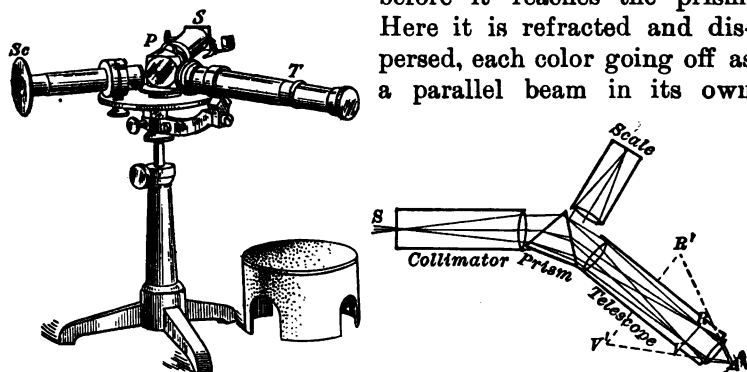

FIG. 447. — Spectroscope.
**spectroscope.** There are four main parts in a spectroscope (Fig. 447): the **collimator**, which has a slit at one end and a convex lens at the other; a **prism**, commonly of flint glass; a **telescope**, which has an object glass and eyepiece, and a **scale tube**, which has a ruled scale at one end and a lens at the other. In the collimator the slit is at the principal focus of the lens, and so light diverging from the slit is made parallel by the lens before it reaches the prism. Here it is refracted and dispersed, each color going off as a parallel beam in its own